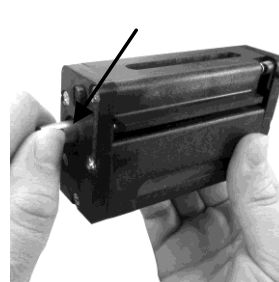

Figure 19d. Manual Rotation of Knife Shaft
7. Rotate the shaft by hand, using the inboard shaft extending from the assembly (Fig. 19d). The knife should rotate freely, and will make a metallic shearing sound during rotation.